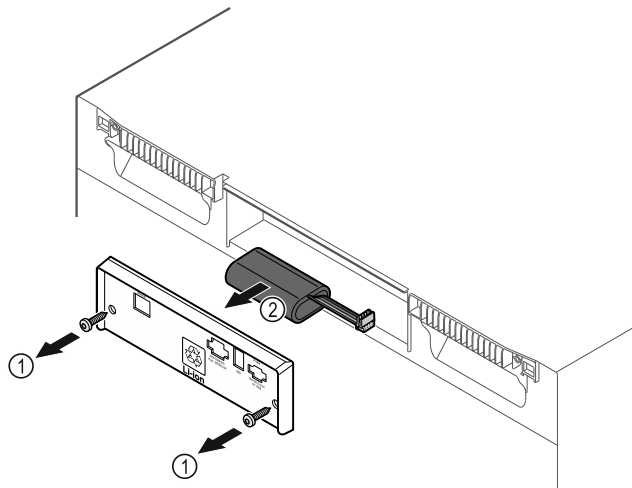

Fig. 240
- ▶ Unscrew screws and remove cover from the back of the appliance Fig. 240 (1).
- ▶ Disconnect and remove battery Fig. 240 (2).